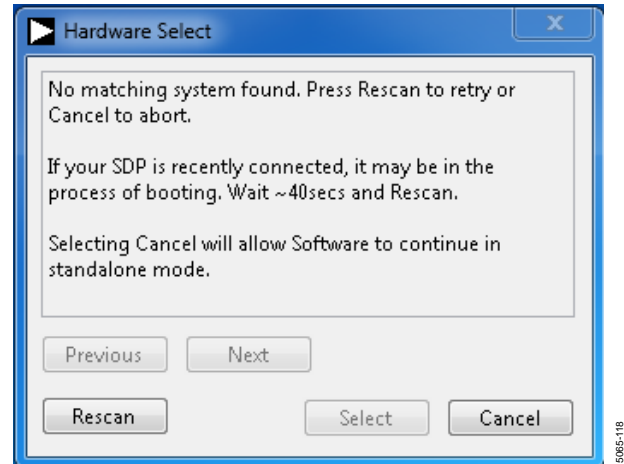
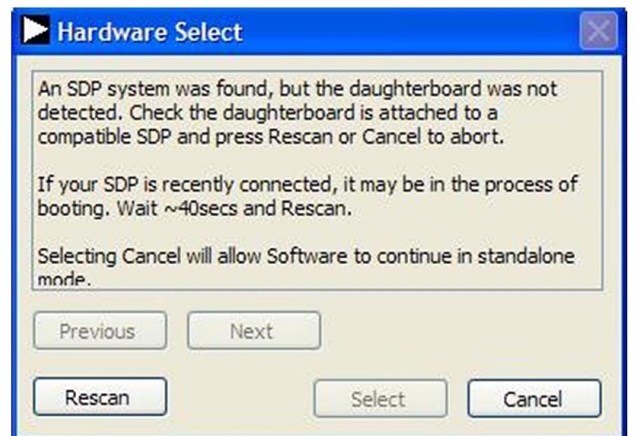

Figure 16. SDP Board Not Connected to the USB Port Pop-Up Window Error
Figure 17. EVAL-ADAQ7980SDZ Not Connected to the USB Port Pop-Up Window Error
2. The software then attempts to connect to the SDP board and the EVAL-ADAQ7980SDZ. If the SDP board is not found, an error window displays (see Figure 16). If the SDP board is found but the EVAL-ADAQ7980SDZ is not detected, a different error window displays (see Figure 17). If either connectivity error displays, ensure the hardware is properly connected to the USB port of the PC, wait a few seconds, click **Rescan**, and follow the instructions.
2. The software attempts to connect to the evaluation hardware. If the hardware is not found, either of the error messages in Figure 16 or Figure 17 display. To continue without hardware in standalone mode, click **Cancel**.